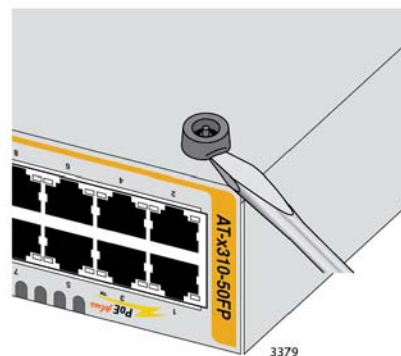

Figure 24. Removing the Rubber Feet
2. Using a flat-head screwdriver, pry the rubber feet from the bottom of the switch. Refer to Figure 24.